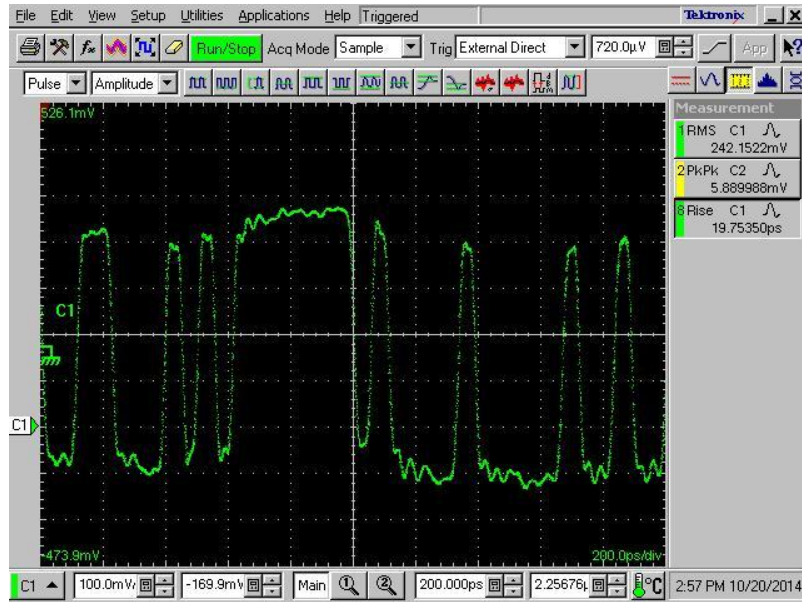

Figure 2. Incorrect PRBS7 pattern
9. Scroll/Delay the 127 bit PRBS7 pattern on the oscilloscope until you observe a sequence of data close to 7 one's followed by 6 zero's. You may find a pattern shown below in **Figure 2**, which is incorrect.